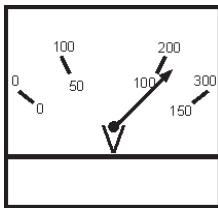
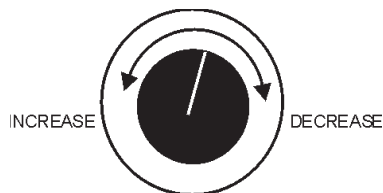

Figure 24. Voltage Meter (Volts)
Figure 25. Voltage Adjust Control Knob
6. The generator's voltage meter (Figure 24) displays the 120 VAC in **VOLTS**. If the voltage is not within the specified frequency tolerance, use the voltage adjustment control knob (Figure 25) to increase or decrease the desired voltage.